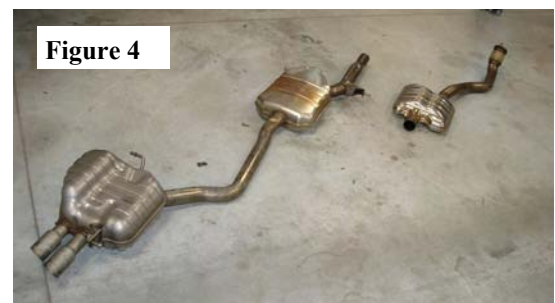

Figure 4
5. Carefully remove front muffler section from hangars and remove from vehicle. (See Fig. 4)